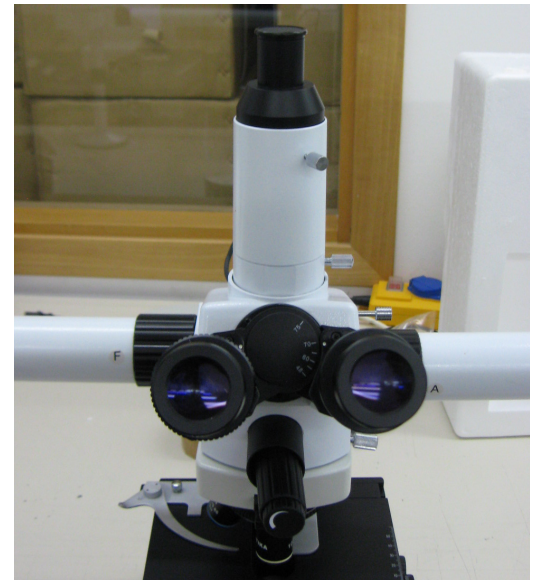

Fig. 11
2.13 Install the trinocular head over the splitter, directly onto the microscope body. (Fig. 11)